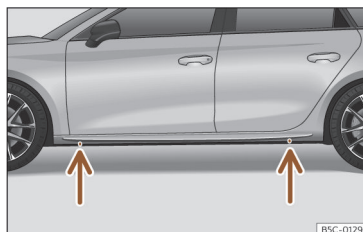

Fig. 245 Jack position points.
- Look on the strut for the mark of the jack support point (sunken area) closest to the wheel to be changed >>> **Fig. 245**.